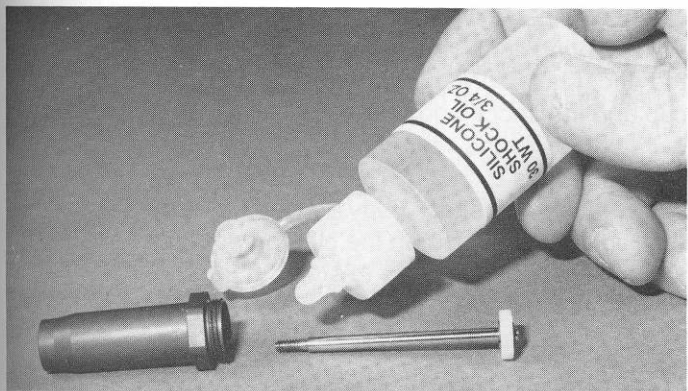

**Fig. 120**
□ **Figs. 120 & 121** In bag #6-9 you will find a small bag containing the #6466 plastic downstop spacers (travel limiters) of three thicknesses: .125", .062" & .031". (1) Install the travel limiters on the front and rear shock shafts. Install one .062" spacer and one .031" spacer on each rear shaft. (2) Install one .062" spacer on each front shaft.